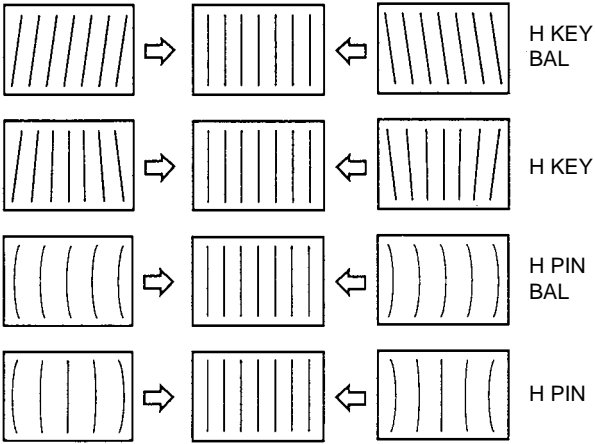

Fig. 1-9
10. Adjust the trapezoidal distortion and PIN distortion on both sides of picture using the H KEY BAL, H KEY, H PIN BAL and H PIN data respectively as shown in Fig. 1-9.